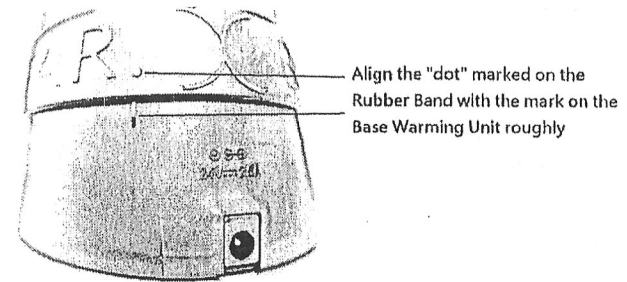

Fig. 2 Alignment of Rubber Band
- Align the "dot" mark at rubber band with the mark at "Base Warming Unit" as shown Fig. 2.